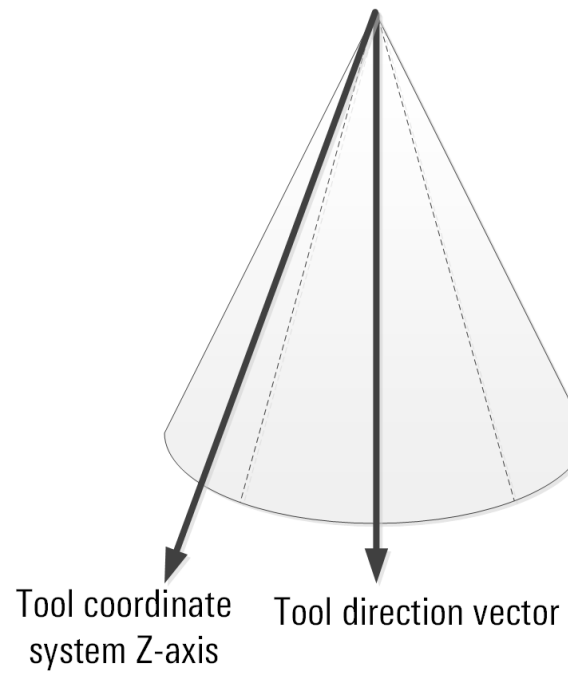

Figure 1-3 Working attitude region and critical attitude region
- **Tool direction vector** A free vector specified by the user, with a length of 1, in the direction usually pointed by the tool coordinate system Z axis when the robot is working. As shown in Figure 1-3.
- **Work posture area** The set of tool coordinate system postures where the angle between the tool coordinate system Z axis and the tool direction vector is less than a certain value. This value can be set by the user, ranging from 5° to 180°. As shown in Figure 1-3, the solid line cone.
- **Conventional attitude area** The sub region of the working attitude region is the union of the critical attitude region, and the intersection is the empty set. As shown in Figure 1-3, the dashed cone.